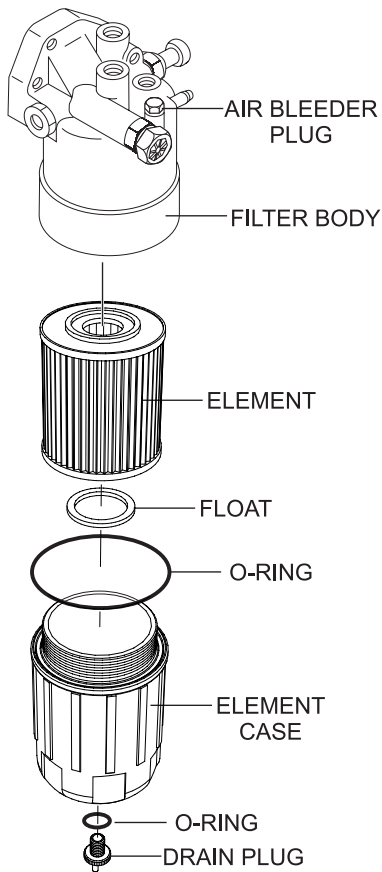

Figure 66. Fuel Filter Replacement
1. Use a filter wrench to remove the element case (Figure 66) from the fuel filter body.